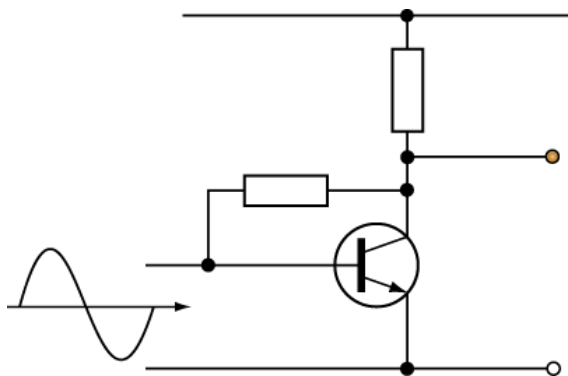

Fig. E5-6
6. The output signal at the collector of Fig. E5-6 will be;